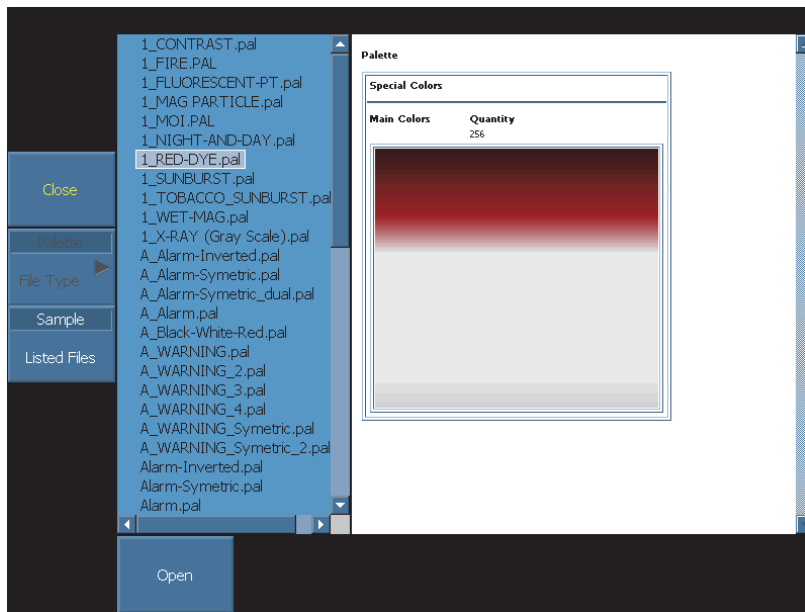

Figure 13-38 Selecting the **1_RED-DYE.pal** color palette
1. If necessary, load the **1_RED-DYE.pal** color palette, which is the default palette (patent rights protection by, but not limited to, the following: US D668,564; 13/967,690; CN201130084342.30). Select **Displays > Color > Load Palette** (see Figure 13-38 on page 277).